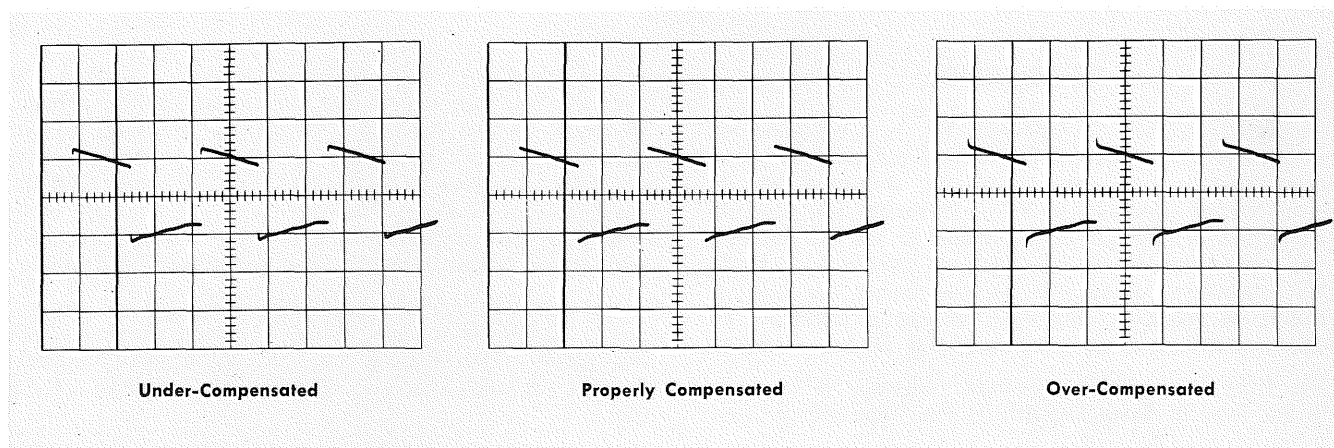

Fig. 3. Probe-compensation waveforms.
4. Adjust the variable capacitor in the body of the probe for the correct signal response, as shown in Fig. 3, center.